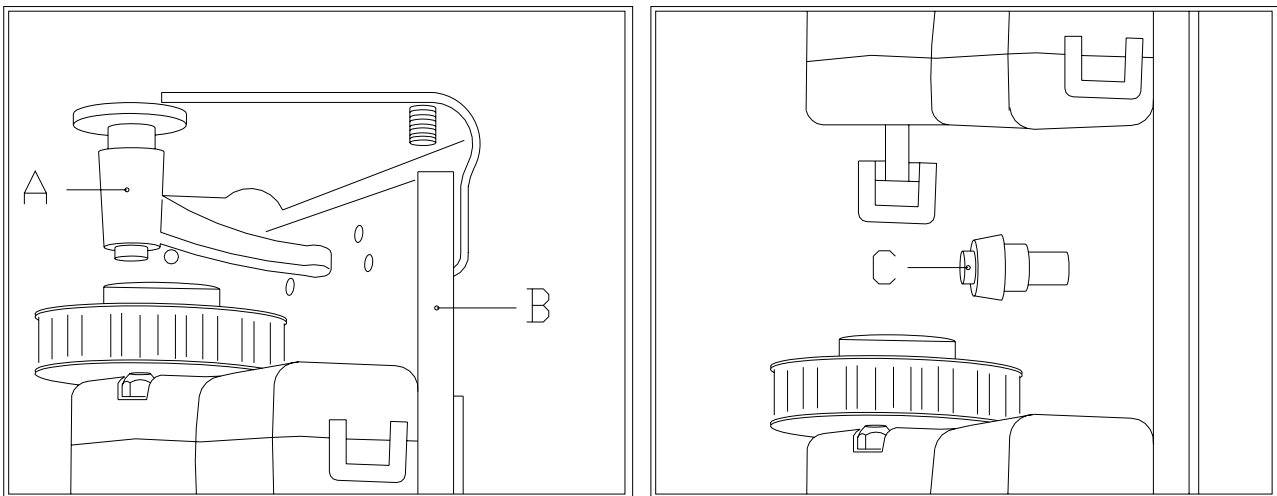
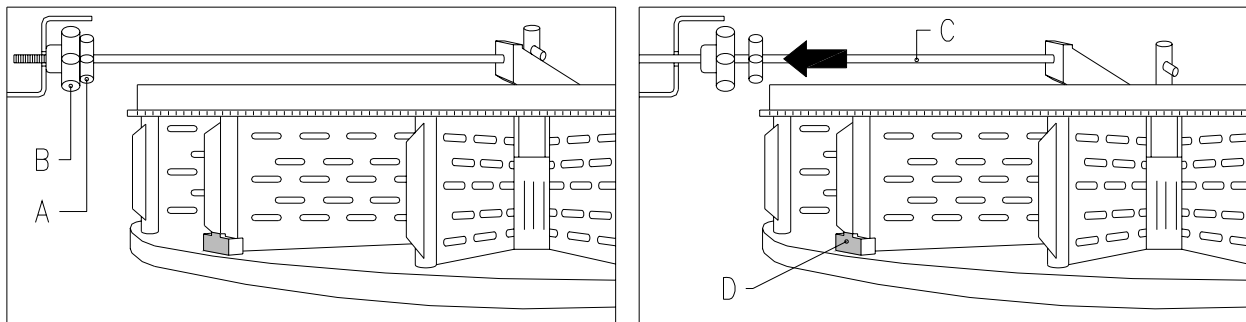

FIG. 6
FIG. 7
### 8.1 REMOVING THE DRUMS FIG. 6 - FIG. 7
- Slacken the two handles (pos. A FIG. 6), both above and below. Furthermore, slacken the 3 screw studs (pos. C FIG. 6) located at regular intervals along the upright for the motors. Then shift the motor assembly, (pos. B FIG. 6), so that the gearwheels are released.
- Release the column locking tie rod and remove it as shown in FIG. 7;
- Bring the motor assembly closer and check that all the gearwheels mesh correctly; this operation is facilitated by acting on the 3 screw studs (pos. C FIG. 6). Then tighten the two handles, both above and below.
When the machine is turned on it automatically rotates all the drums until the stop pos. D FIG. 7 is in front of the sensor, in order to reset the machine.